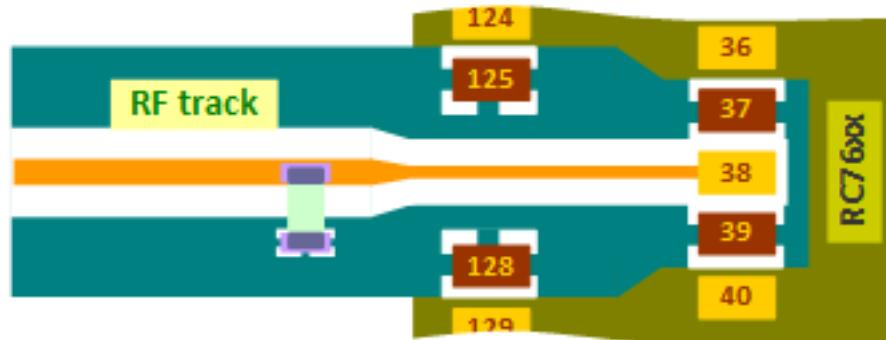

Figure 5-4: Track width and component pad
- For each antenna interface (RF\_MAIN, RF\_DIV, RF\_GNSS), the related GND pads should be considered as an integrated part of the radio input/output (refer to Figure 5-4 example). Reference ground of the RF traces shall be a solid integrated plane.